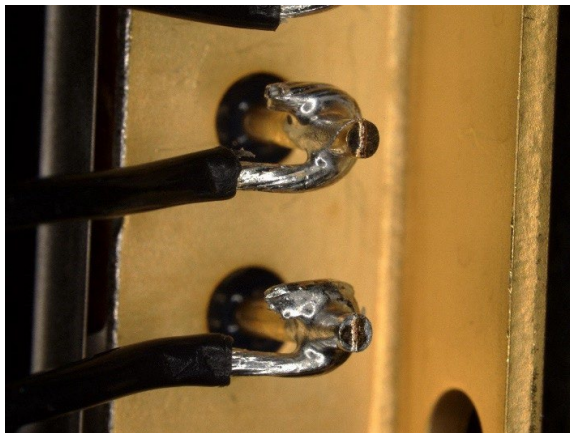

Figure 3: Side leded J-hook pin connections.
8. Side Leaded Packages (Optional). The VPT products with side leads can be attached using the same technique. The stranded wire should be pre-tinned and formed in a J-hook bend, as shown below in Figure 3.